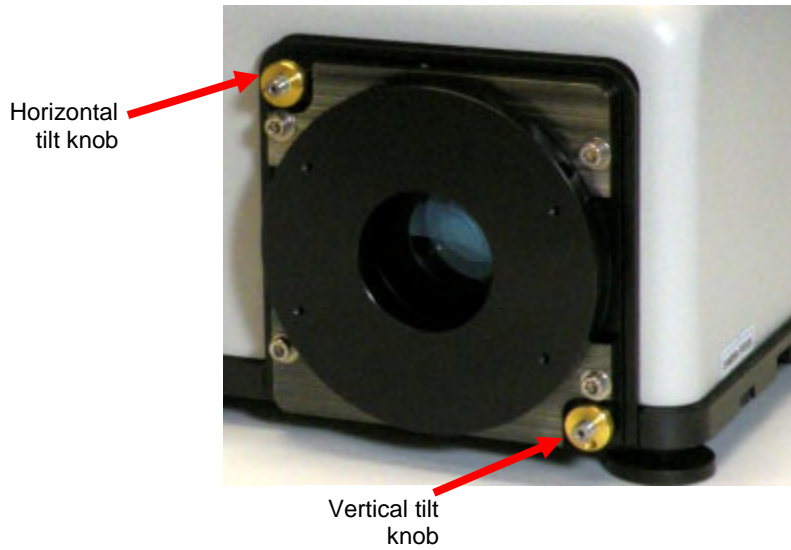
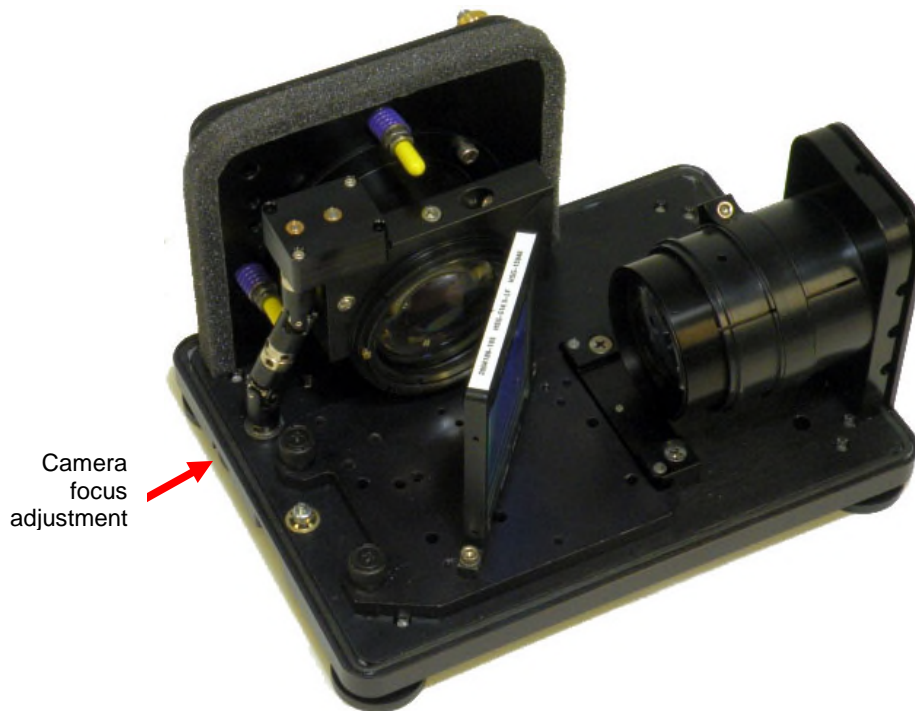

Figure 4-10. The camera mount, including the horizontal tilt knob with its setscrew, vertical tilt knob, and camera focus thumbwheel.
Figure 4-11. Camera focus adjustment.
When focusing and aligning the camera, use the smallest available slit, preferably 25- μm . All focus and alignment adjustments are performed with the camera focus, horizontal tilt, and vertical tilt adjustment screws (Figure 4-10).
Note: Before adjusting the horizontal or vertical tilt adjustment screws (Figure 4-10), loosen the setscrews that lock the adjustment screws.
- 5** Adjust the camera focus thumbwheel (Figure 4-11) and vertical tilt adjustment screw (Figure 4-10) until spectral lines located near the center of each stripe are simultaneously in focus (i.e., line width is minimized).
- 6** Adjust the camera focus thumbwheel (Figure 4-11) and horizontal tilt adjustment screw (Figure 4-10) until spectral lines located at the left and right of the detector are simultaneously in focus.